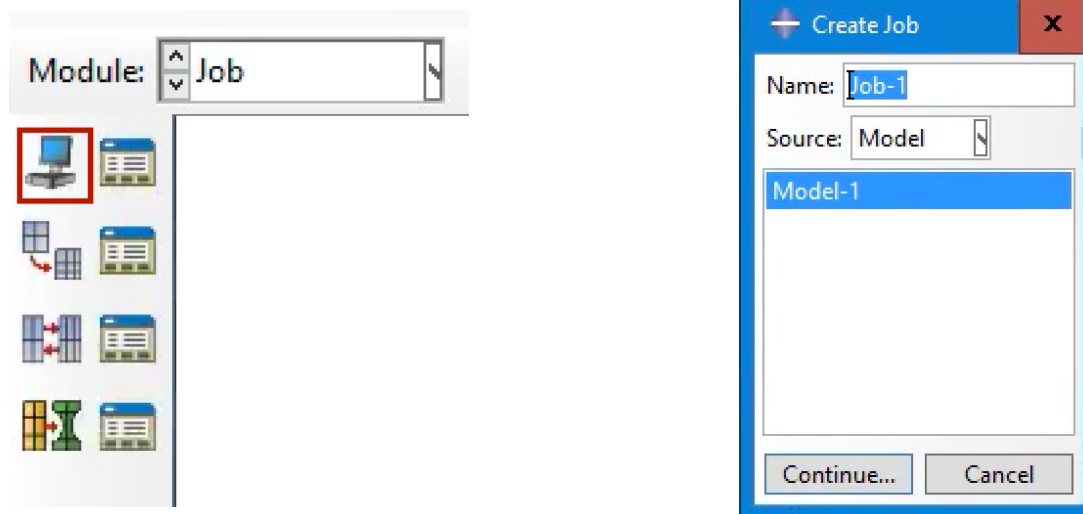

Figure 33 Creating job
- Next step is creating a job that is associated with the model. Select **Job** on the Module list. Then, click on the **Create Job** button. In the **Create Job** dialog box, name your job or just leave the name as it is. Remember that the input and output files and also the other temporary files will be generated under this name. Then, click on the **Continue** button (Figure 33).